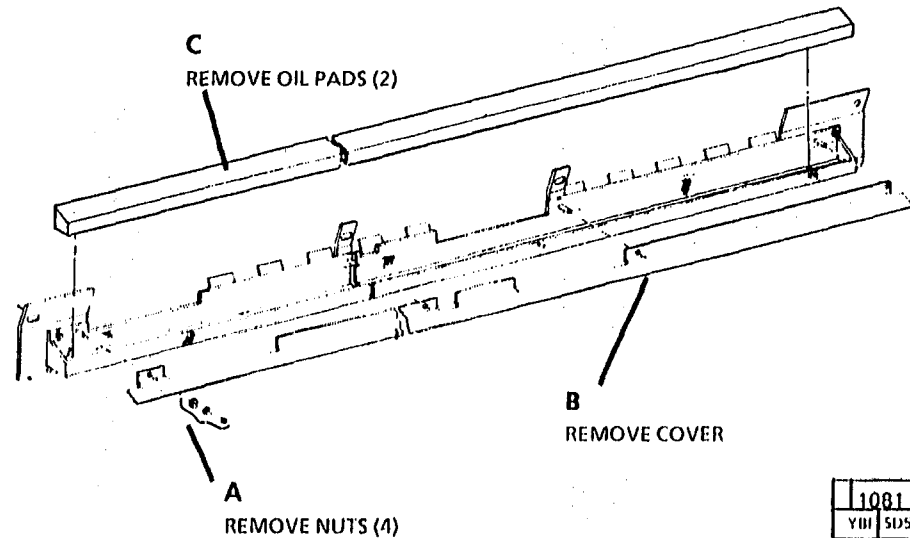

Figure 2. Remove Oil Pads
4. (Figure 2): Remove oil pads.